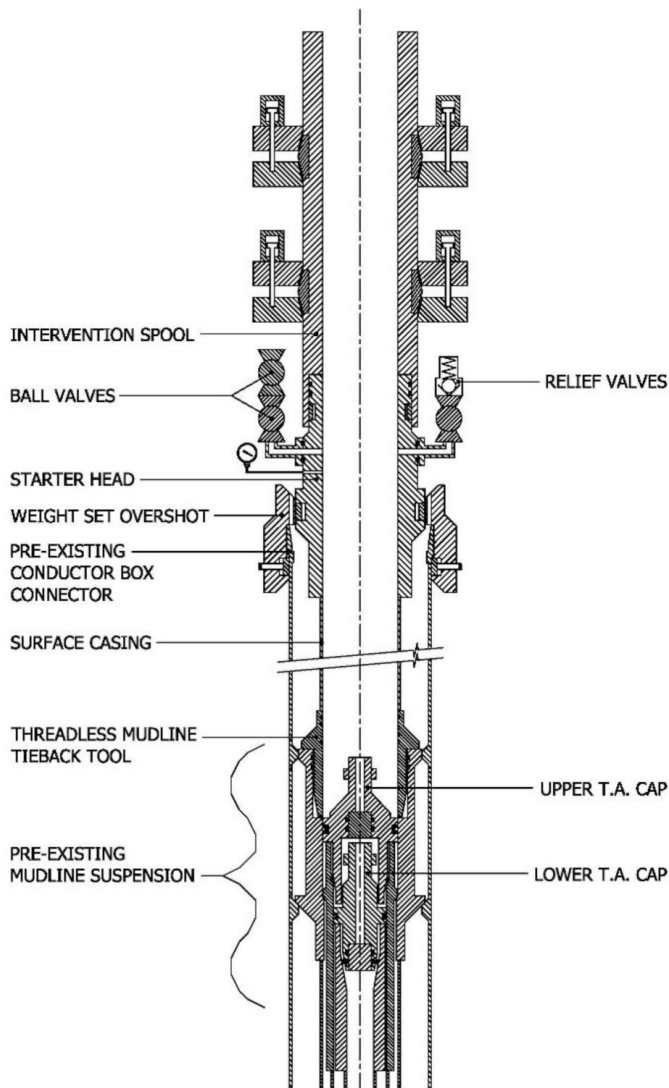

Figure 1: Shallow water intervention system conductor connection and surface casing tieback
Therefore, instead of connecting to the mudline tieback profile, the primary SWIS configuration makes up to the conductor projecting above the seabed. Using this feature as a connection point offers the advantage that it can be visually inspected before and after cleaning/preparation, verifying suitable conditions for a successful tieback. A connector that makes up to bare cut conductor can be used for this requirement, but often a conductor connector box or pin will be present. With a conductor box connection available, the structural base for the SWIS will then be a deployed weight-set overshot (see figure 1).
The tieback assembly is comprised of a number of individual components as shown in figure 1: (1) a threadless mudline tieback tool down, (2) a length of surface casing, (3) an initial starter head assembly, and (4) a gripping intervention spool up. The tieback tool engages with the mudline suspension surface casing hanger to create a sealing connection. In a conventional tieback, a threaded tieback tool would be used at this point to both seal and anchor the system in place.